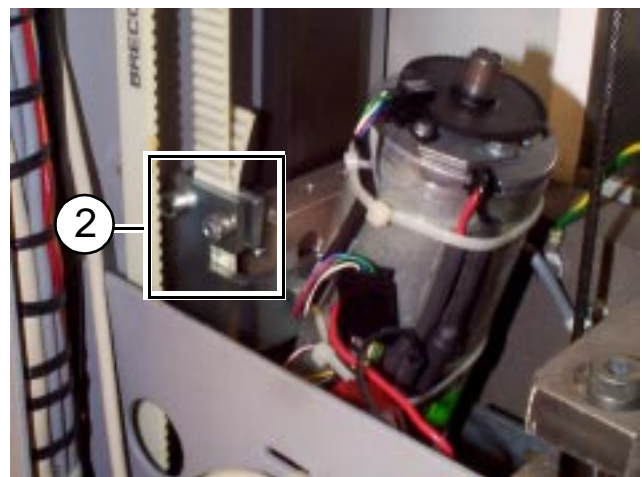

Fig. 2
On older MAMMOMATs the tension adjuster of the drive belt is placed inside the MAMMOMAT beside motor M3 (see Fig. 2, pos.2). Refer to chapters "Replacing the lifting carriage motor M1-II" on Page 3 - 3 and "Replacing the drive belt-II" on Page 3 - 5.